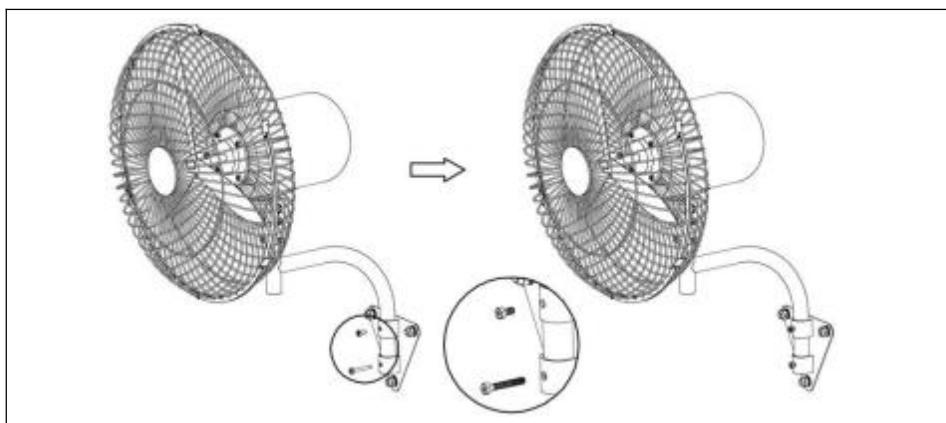

Fig.9.
2). Install the fan body on the wall panel(2), and then lock the bracket screws1(4) and the bracket screws2 (5). Note, that the screw holes on the bracket should correspond to the screw holes on the wall hanging panel.See the (Fig.9.).